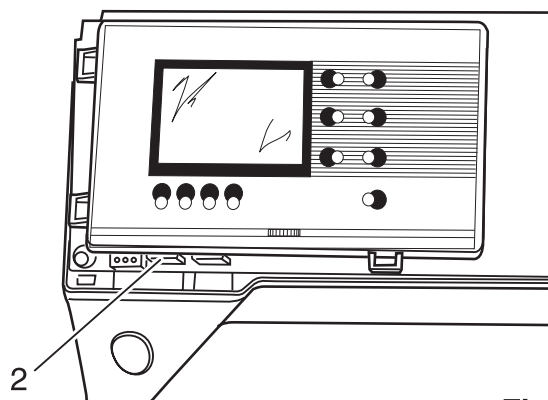

Fig. 2
- Remove connection plug 2 (fig. 2) from the circuit board.